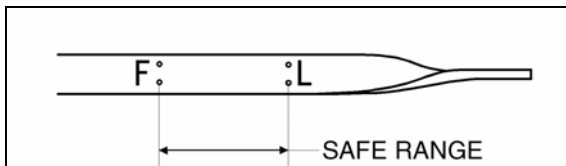

FIGURE 11: ENGINE OIL LEVEL DIPSTICK
Check the oil level daily with the engine stopped. If the engine has just been stopped and is warm, wait at least 10 minutes to allow the oil to drain back to the oil pan before checking. Wipe the dipstick clean then check oil level. The level should always be within the safe range on the dipstick (Fig. 11). Add the proper grade of oil to maintain the correct level on the dipstick. All diesel engines are designed to consume some oil, so a periodic addition of oil is normal.
8. Remove the engine-oil filler cap and pour oil in the engine until it reaches the "FULL" mark on the dipstick (Fig. 11).
10. Add oil as required to bring the level within the safe range on the dipstick (Fig. 11).